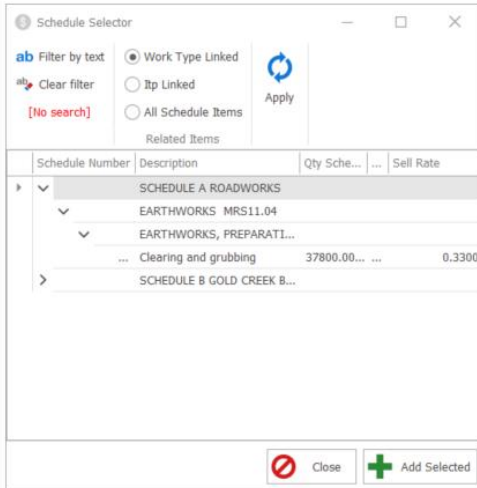

Figure 58 The Schedule Item selector showing Schedule Items related to the CG Work Type
2. With the Lot Register open and CGRWNB001 selected, double click on the *Quantities* heading in the related item list. You will see the schedule selector with a selection of the Schedule Items related to the currently selected Lot's Work Type selected - similar to Figure 58. You can show all the Schedule Items by clicking on *All Schedule Items* or search them using the *Filter by Text* both in the ribbon menu as in Figure 59.